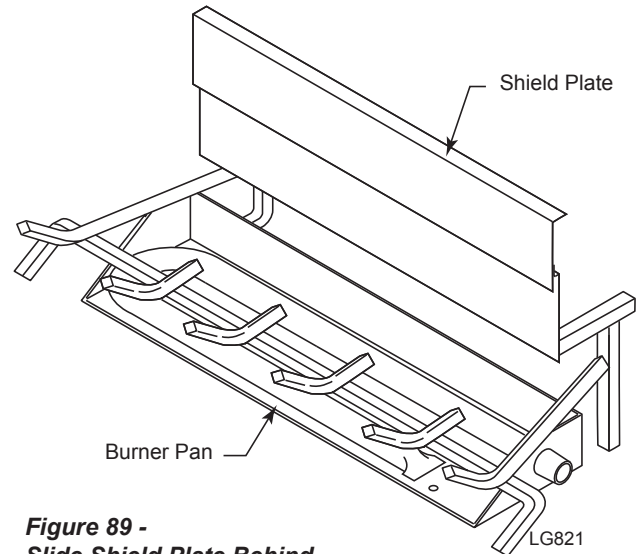

**Figure 89 -
1. Slide shield plate behind burner pan. *Figure 89*